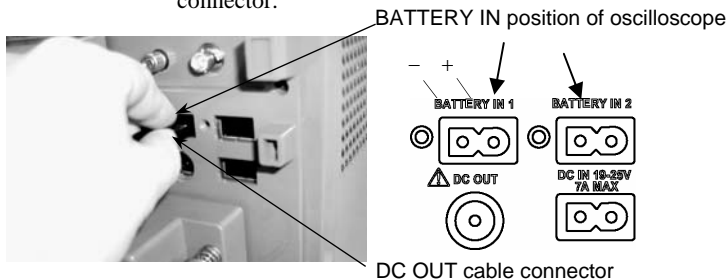

Figure 19. Connection of DC OUT Cable
1. Connect the DC OUT cable of the BATTERY PACK to the BATTERY IN 1 or BATTERY IN 2 connector at the upper right portion of the rear of the oscilloscope. (See Figure 19.)